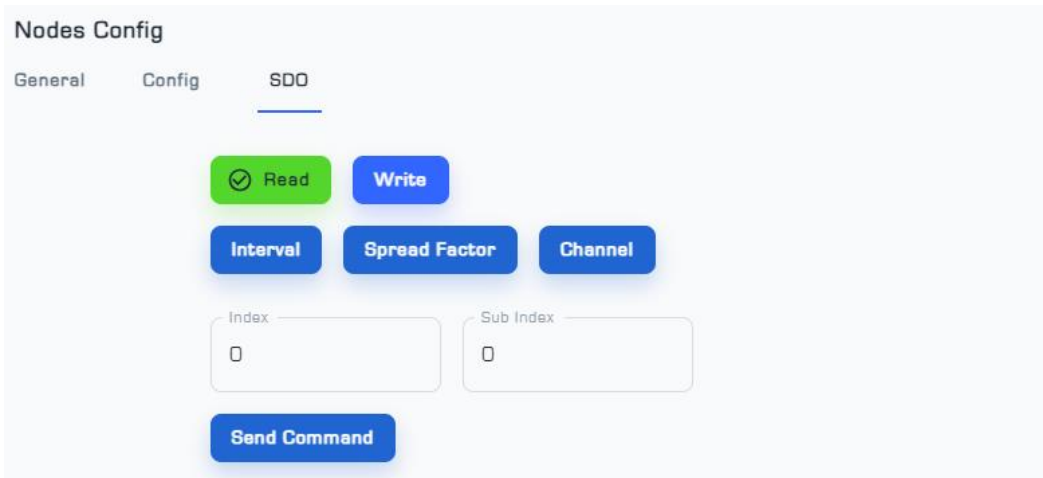

Figure 7: SDO Menu from Nodes Setting page
■ The SDO menu is used to change the parameters of Interval¹, Spread Factor, and Channel² (Figure 7).